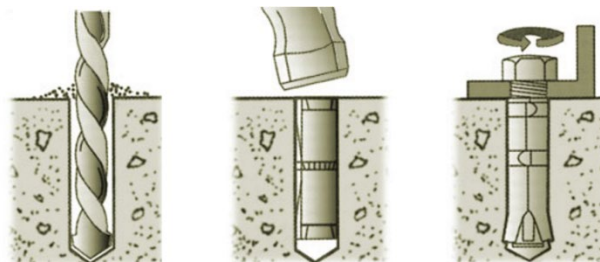
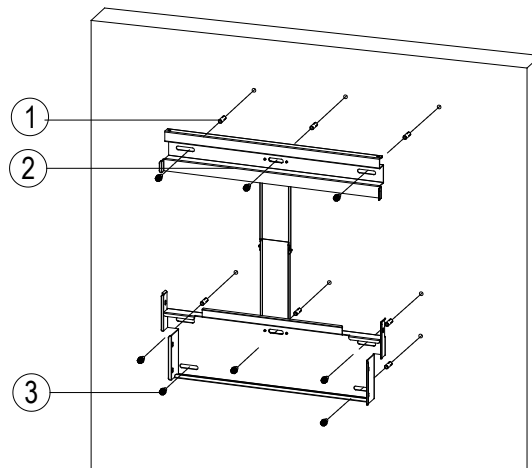

Figure 3-8 Drill holes, set Anchors, and tighten Assembly Bolts
Figure 3-9 Secure the Mounting Bracket
A mounting bracket, shown in Figure 3-9, is provided with each SOLECTRIA PVI 25TL-208, PVI 50TL-480, and PVI 60TL-480 inverter. The mounting bracket must be securely attached to a structurally sound, flat surface. Acceptable surfaces include U-channel metal racking (such as Unistrut), concrete, and other non-flammable surfaces.
Referring to Figure 3-9, drill holes at the marked positions with a 10mm (0.4in.) drill and put the M8 expansion tubes, labeled as ①, into the holes; assemble and fasten the mounting brackets, labeled as ②, with the M8x25 assembling bolts, labeled as ③, supplied with the accessory kit. Tool: Electric drill (Φ 10mm/0.4in. head), 13mm wrench 240 in-lbs.
Concrete Wall Mount: Drill holes at the marked positions with a 0.4in. (10mm) masonry bit and insert M8 Expansion Anchors into the holes (expansion anchors not provided); Fasten the Mounting Bracket with the M8x25 Assembling Bolts supplied with the Accessory Kit. Figure 3-8 and Figure 3-9. Tools Required: Electric drill (Φ 10mm/0.4in. masonry bit), No. 13 wrench